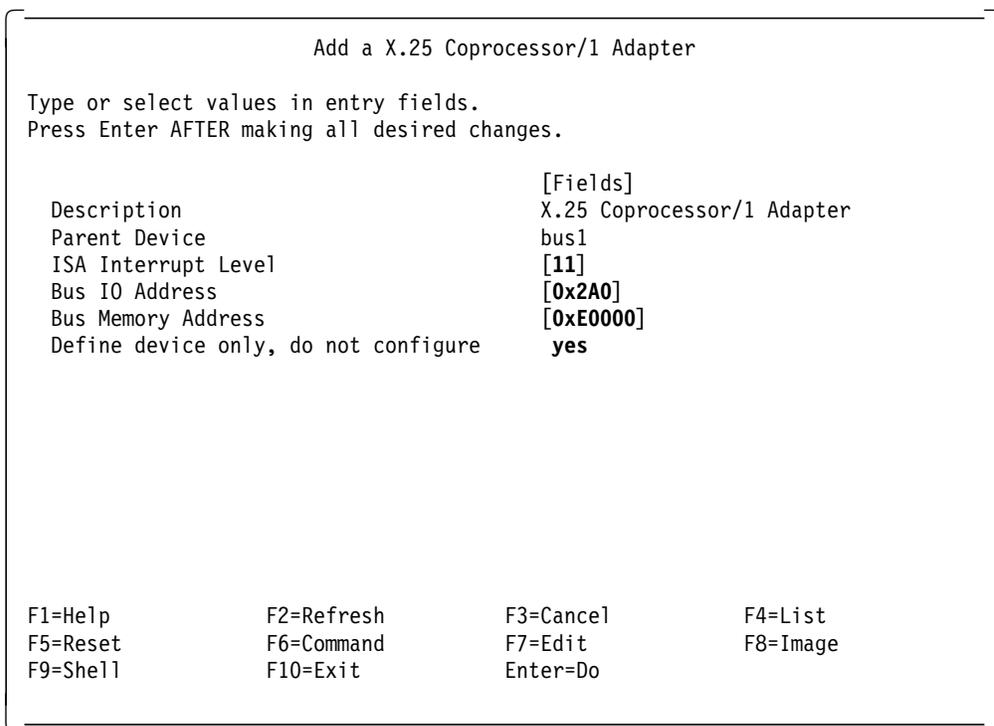

Figure 39. SMIT Configuration Menu for Adding an X.25 Interface Co-Processor ISA Adapter
12. From the menu described in Figure 39, select the correct Interrupt Level, Bus I/O Address and Bus Memory values, and press **Enter**.